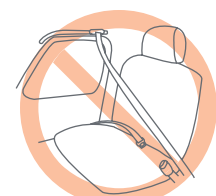

Fig. 16-2
- **DO NOT** use a shoulder belt that moves along a track. These systems typically move to surround the occupant when the door is closed. This type of belt system will **NOT** adequately restrain the Safety Seat (Fig. 16-2).